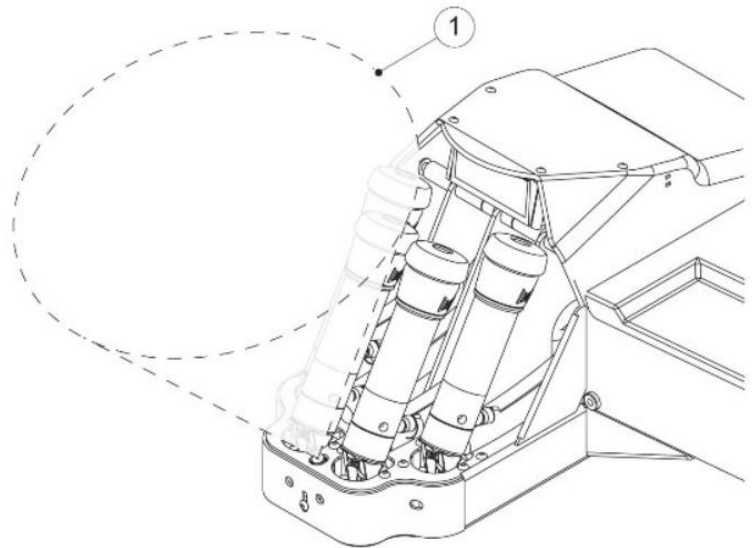

Figure 2.2 Verify Teat Spray Operation
10. Refer to figure 2.2 for the correct shape